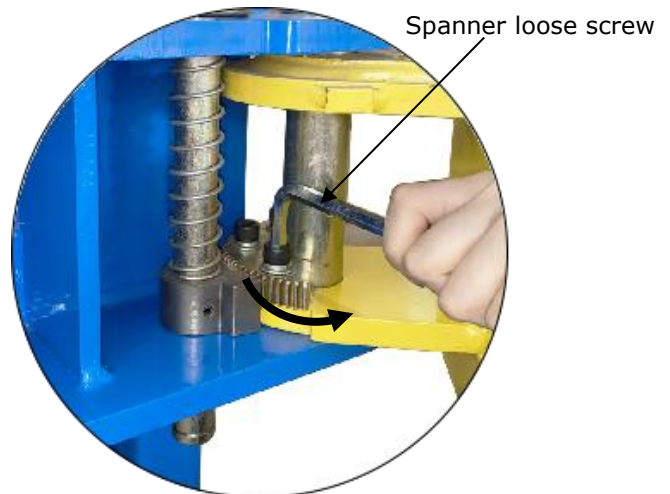

Fig. 24
2. Lowering the carriages down to the lowest position, then use the 8# socket head wrench to loosen the socket bolt (See Fig. 24)